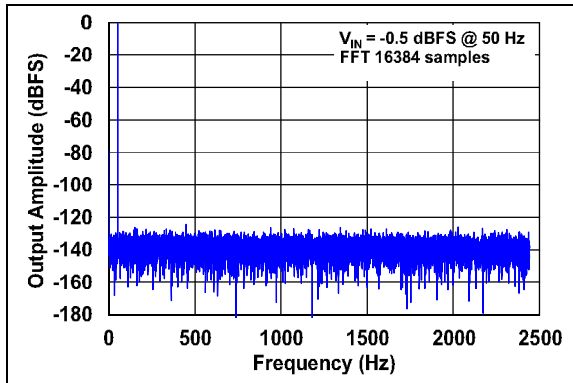

**FIGURE 1-1:** Serial Output Timing Diagram.
**Electrical Specifications:**  $DV_{DD} = 2.7\text{V}$  to  $3.6\text{V}$ ,  $T_A = -40^{\circ}\text{C}$  to  $+125^{\circ}\text{C}$ ,  $C_{LOAD} = 30\text{ pF}$ . See Figure 1-1.
Electrical Specifications: $DV_{DD} = 1.8V$ to $2.7V$ , $T_A = -40^{\circ}C$ to $+125^{\circ}C$ , $C_{LOAD} = 30$ pF. See <a href="#">Figure 1-1</a> .